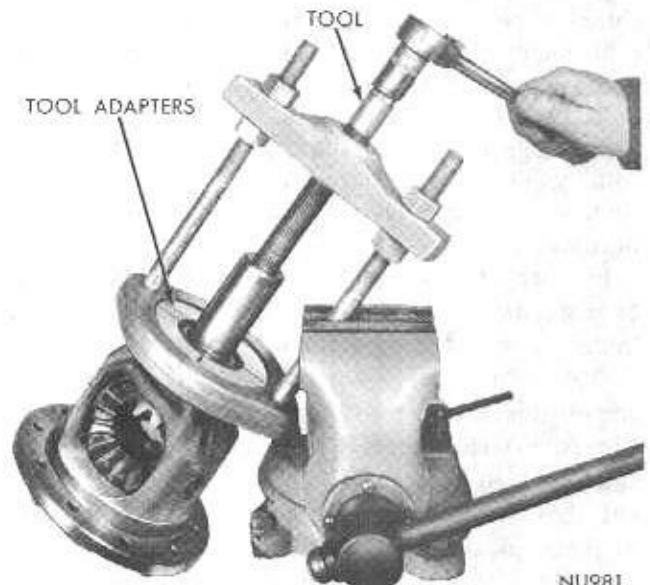

Fig. 14—Removing Differential Bearing Cone
(6) Loosen and remove pedestal cap bolts and remove differential case assembly from carrier and tube assembly.
(7) Loosen and remove pinion shaft lock screw and remove pinion shaft.
(8) Rotate differential side gears until differential pinions appear at differential case window opening and remove.
(9) Remove differential side gears and thrust washers.
(10) Remove differential bearing cones using Tool C-293 and adapter plates No. 44 (Fig. 14).